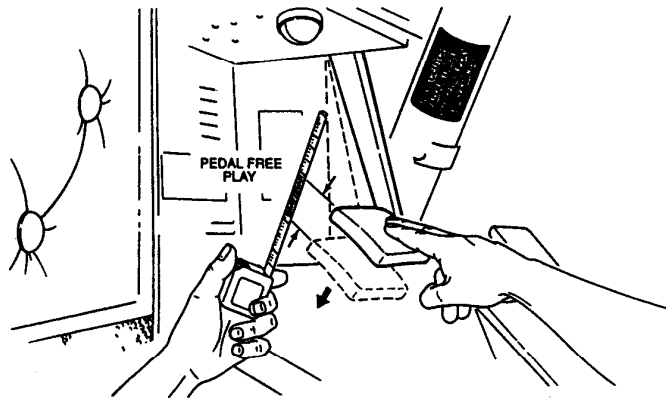

Figure 4
6. Use two fingers and a tape measure to determine "newly adjusted" pedal freeplay. Record this value. It will be different for each truck and normally be in the range of 1 1/4" to 3" (see Figure 4). When the clutch freeplay shrinks to one half of this value in service, it is time for an adjustment.
7. If correct clutch function is not restored after an adjustment, contact your dealer's service department or call Valeo at **(888) 71-VALEO** for technical assistance.